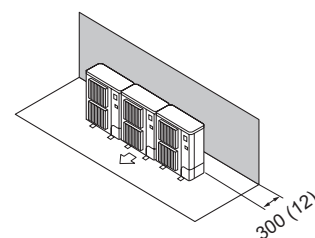

Fig. 2-12
- (1) Obstacles at rear only (Fig. 2-12)